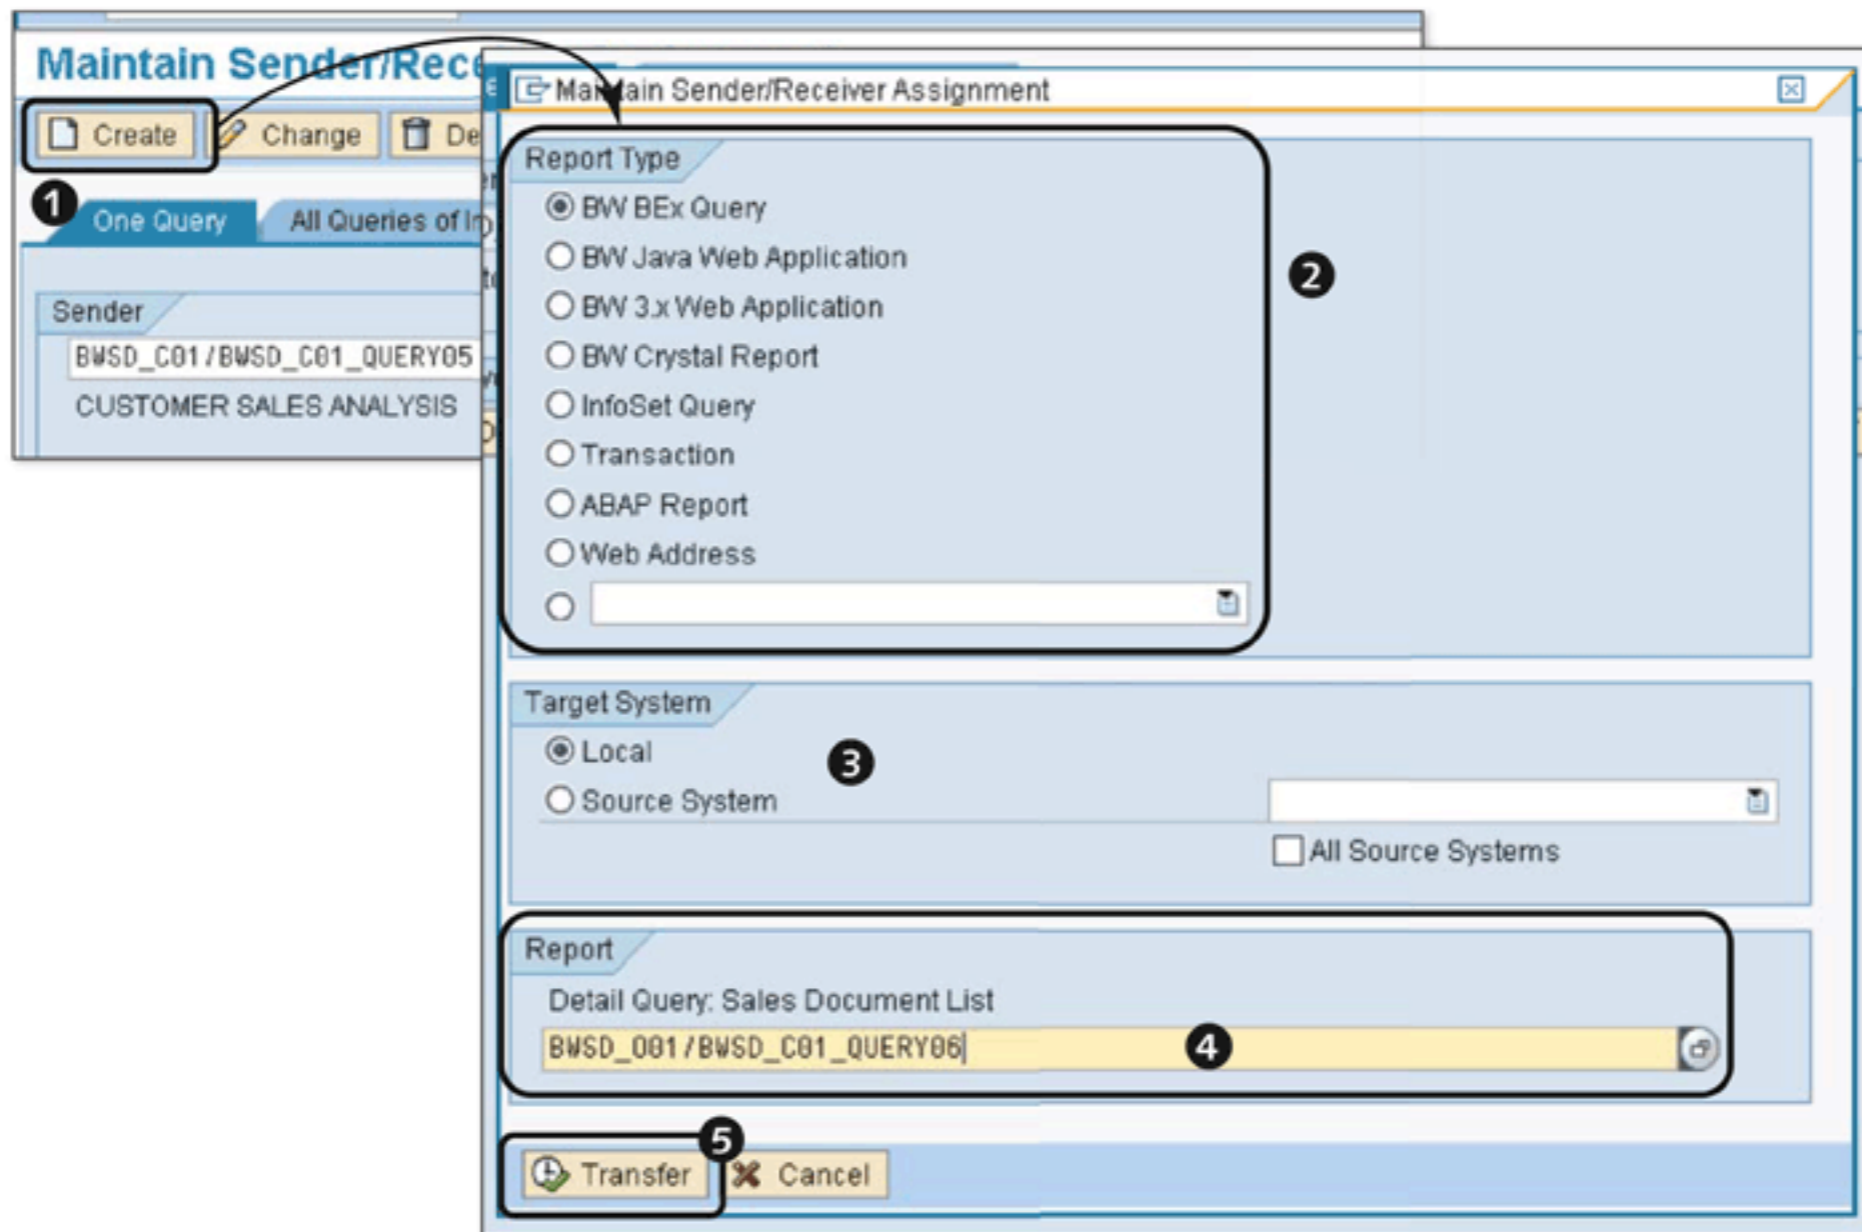

Figure 9.94 Create a New Assignment
Use Transaction RSBBS to call the Transaction MAINTAIN SENDER/RECEIVER ASSIGNMENT (see Figure 9.94).
The RRI settings can be maintained for a specific query as well as for all of the queries on an InfoProvider. Select the ONE QUERY tab, and then select the SENDER query (see Figure 9.94).
After you select the sender query, click on the CREATE button (1) to create a new sender/receiver assignment. A pop-up will appear where you can define the assignment. In the pop-up box shown in Figure 9.94, define the receiver information. The receiver can be queries and web applications from BEx as well as from older versions of SAP NetWeaver BW (SAP NetWeaver BW 3.x and older). The receiver can also be a transaction or a report or a web address. Different options are shown in 2 of Figure 9.94. For our example, select the option BW BEX QUERY as the receiver.